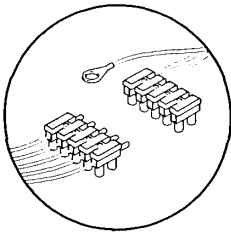
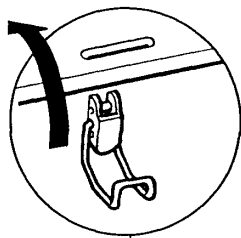
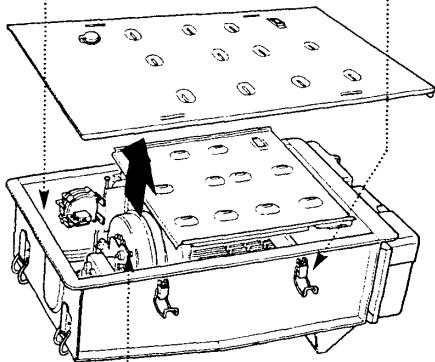

Fig. 17
Fig. 18
Fig. 16
1. Release the four latches holding the combustion box door (Fig 18). Remove the combustion box door by pulling forward (Fig. 16).
2. Release the 5-pin electrical plug connecting the pressure switch and fan (Fig. 17). Withdraw the fan assembly by pulling forwards from the top edge (Fig. 16).